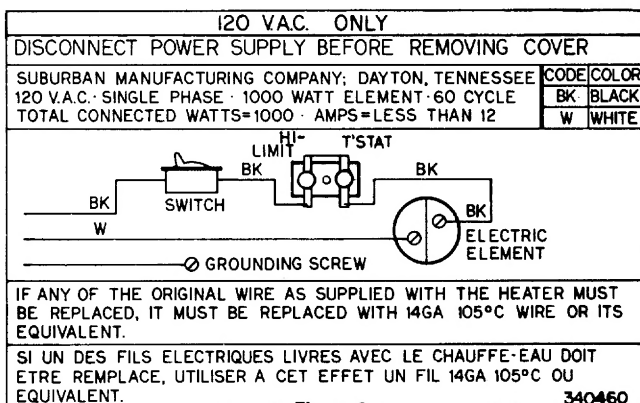

Figure 9
E. Check rating plate and wiring diagram (Figure 9) before proceeding. Install a fused safety switch or circuit breaker of adequate capacity between heater and electrical power source. Attach the black and white wires from the fused switch or breaker to corresponding colored wires in heater junction box. A green wire from a well grounded source must be attached to the green nut in the junction box.